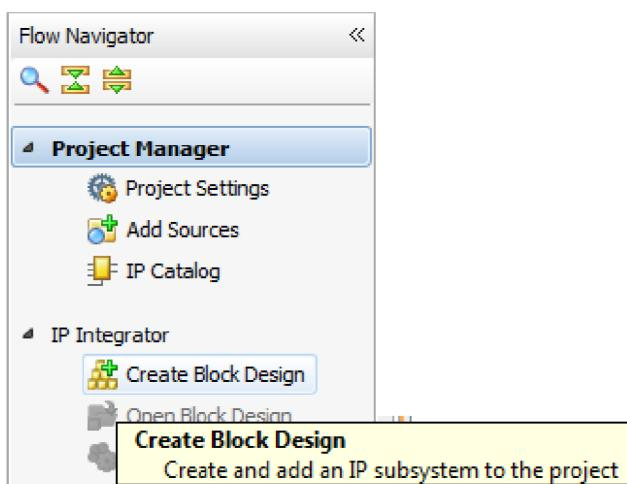

Figure 1.8: Creating a new Block Design in Flow Navigator
- In the *Flow Navigator* window, select **Create Block Design** from the *IP Integrator* section, as in Figure 1.8: